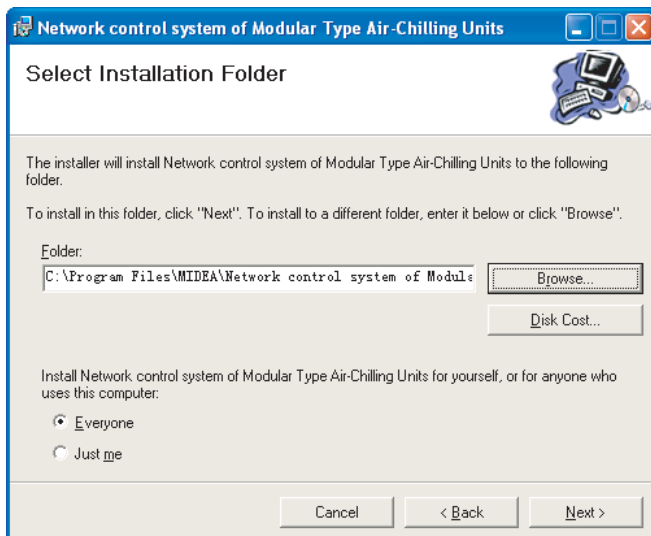

Fig. 2-26
- 2) Installation window as Fig. 2-26, click "Browse....." Key to select the installation address, and then click "Next" to continue the installation: